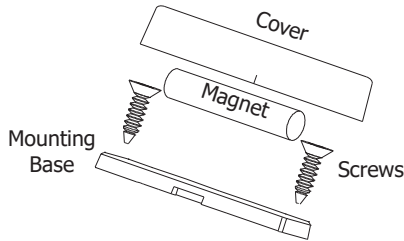

Figure 3: Standard Magnet Assembly
Only one magnet assembly is required for internal reed switch operation. Depending on the installation requirements, either the standard magnet assembly or the commercial magnet assembly can be used. See Figures 3 and 4. Snap the supplied magnet into the desired housing prior to mounting.
6. Place the magnet housing base on the surface near one of the internal reed switch locations (see the magnet alignment markers on the transmitter base) and use the provided screws to secure the magnet base in place. See Figures 3 and 4.